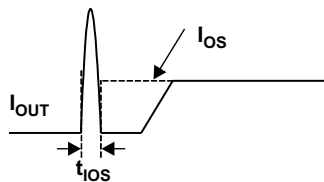

**Figure 4. Output Short-Circuit Parameters**
| t IOS         | Short circuit response time (1)                            | V IN = 5 V, R L = 50 mΩ, 2 incheslead length, See <a href="#">Figure 4</a>                            |     | 1.5  |     | μs   |